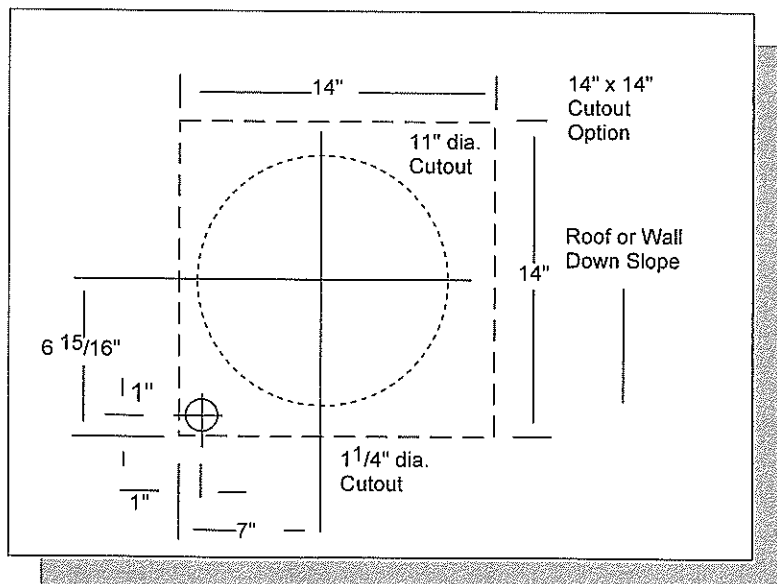

Fig. 6
1. Provide 14" x 14" square hole through roof or wall, or cut round hole for duct with a separate hole for electrical conduit as shown in Figure 6.